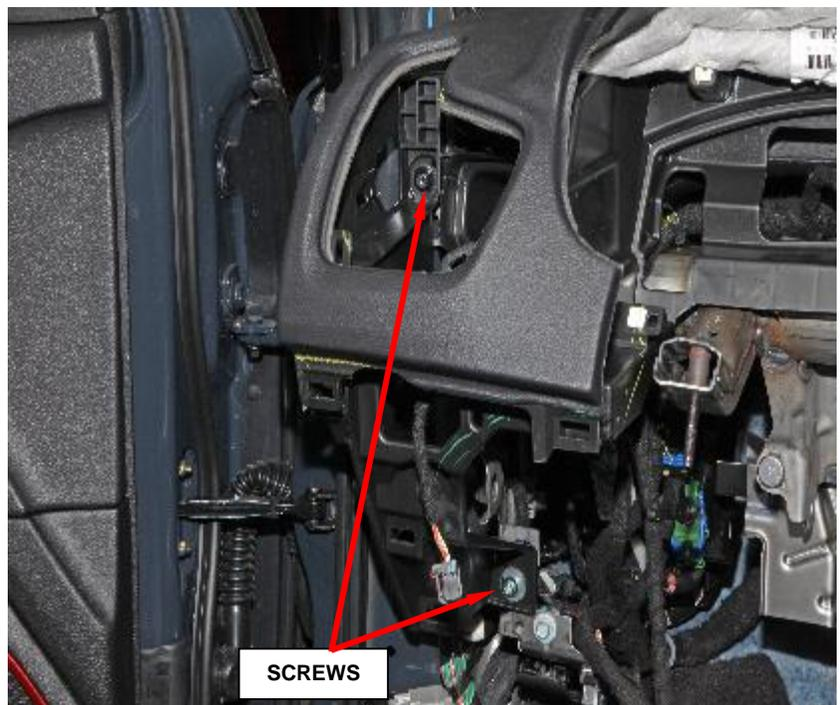

Figure 24 - Left Side Instrument Panel Mounting Screws
61. Remove the two large screws at the left side of the instrument panel cover (Figure 24).